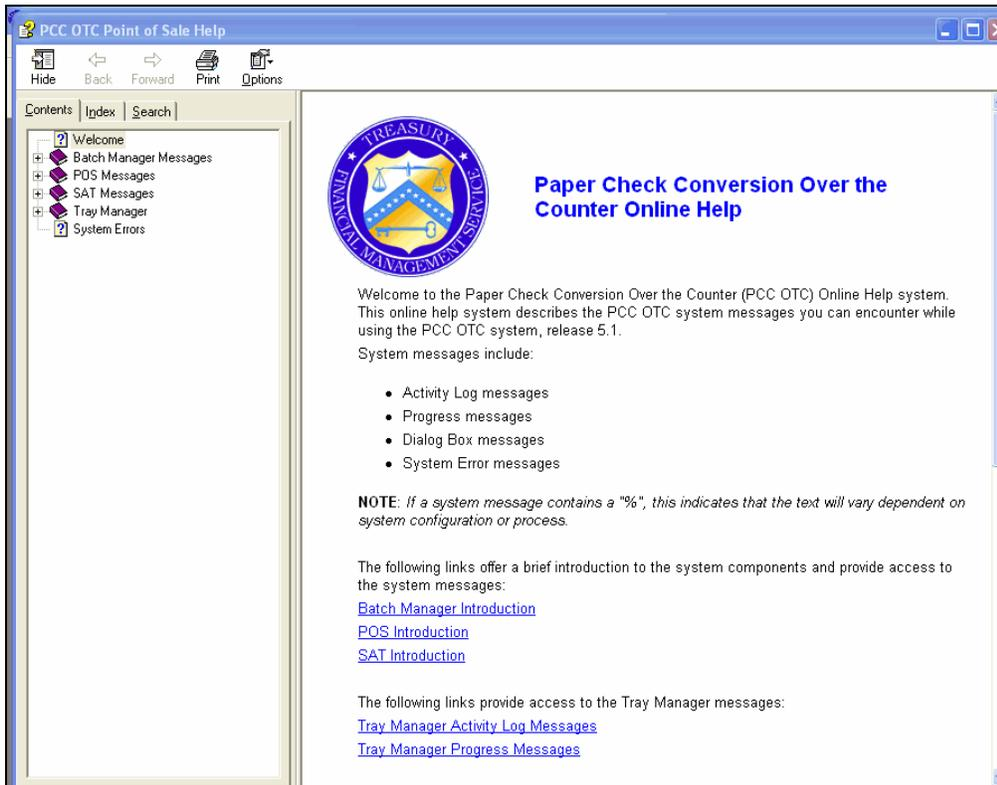
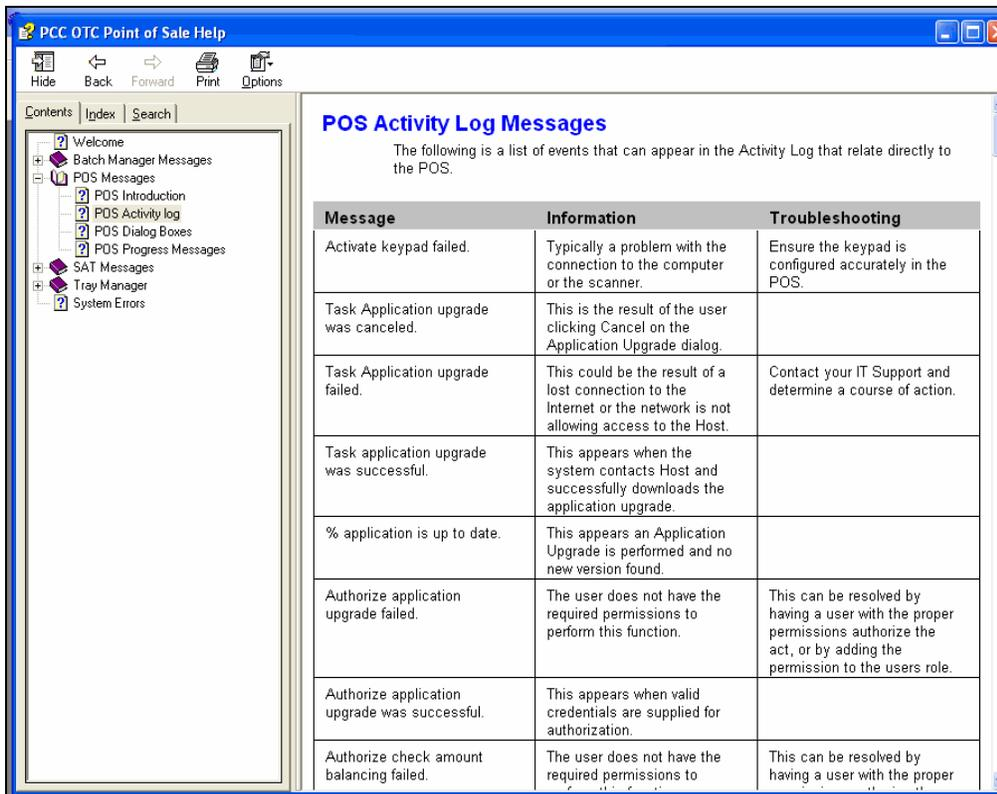

Figure 3.39
Figure 3.40
- **Contents** – Displays a menu of in the left pane that includes a Welcome screen – Introduction to Batch Manager, the POS and the SAT as displayed below in Figure 3.39. System messages for each application can also be displayed by clicking in the appropriate area of the left pane. The right pane includes links for the Introduction sections, Tray Manager (an application that monitors all of the PCC OTC applications) messages, System Errors, and a table of navigational key strokes to assist you while using the software. An example of POS Activity Log Messages is displayed in Figure 3.40.